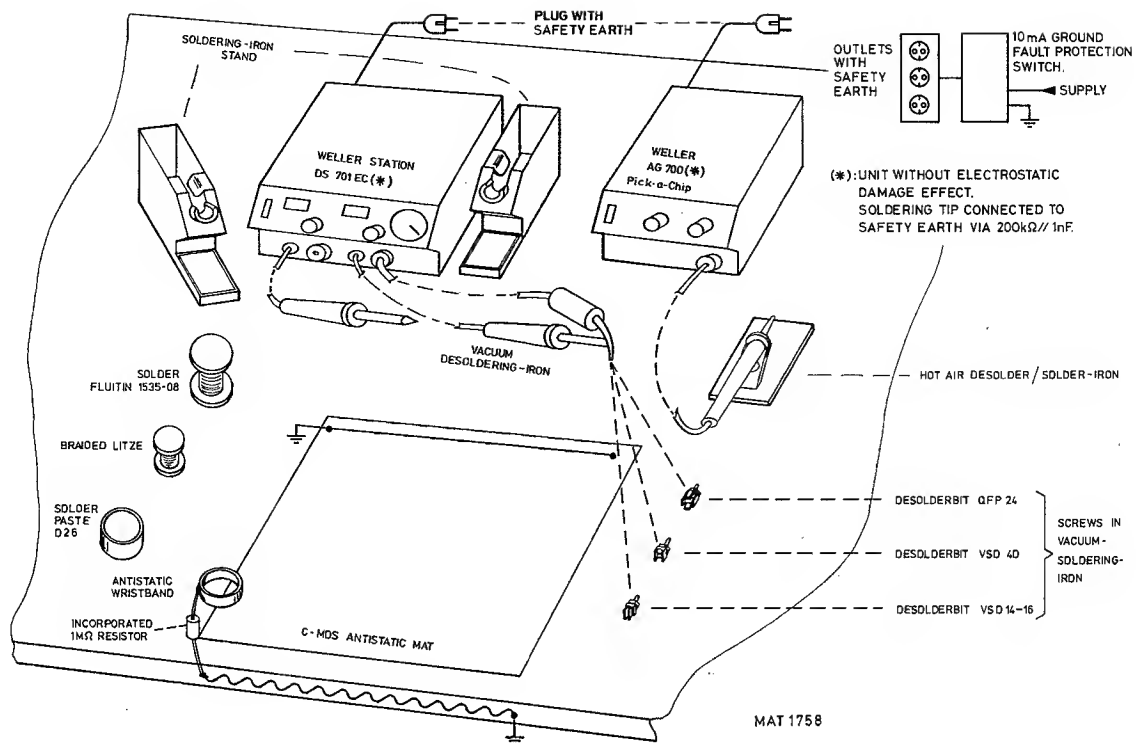

Fig.26.7. Arrangement of working area for S.M.D. exchange.
- how to arrange the S.M.D.-workshop. (see fig.26.7.)
- Protection against E.S.D.: since the working area must be suitable for repair of MOS-devices, some precautions must be taken (see fig.26.7),
- For an optimal supply of heat a working area must be used that does not lead away the heat: the antistatic mat in fig.26.7. meets this requirement.